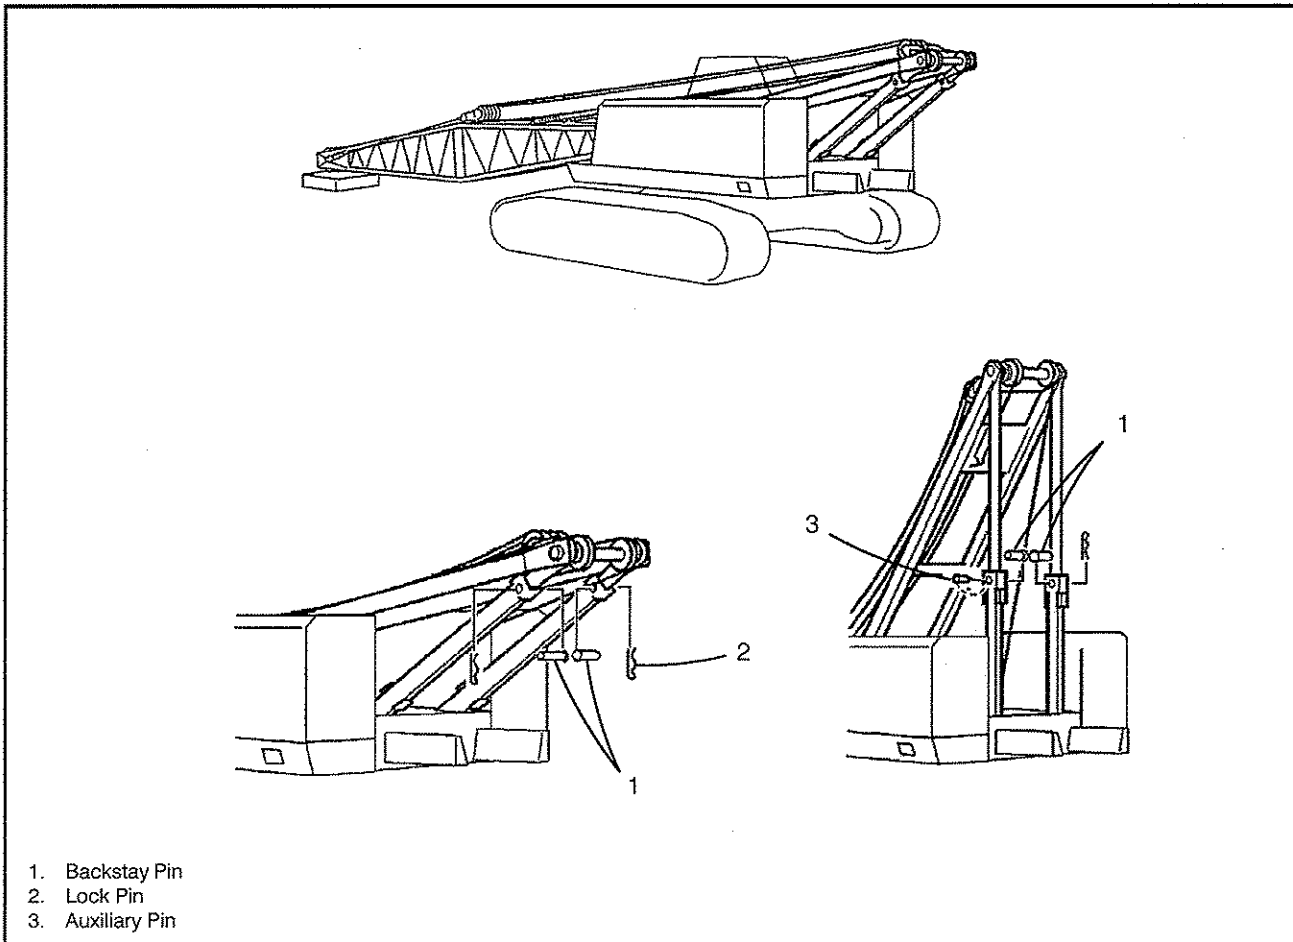

Figure 1-74
4. Remove the left backstay lock pin and pin and install auxiliary pin. Refer to Figure 1-74.
3. Remove the backstay lock pin and pin from the left side. Refer to Figure 1-74.